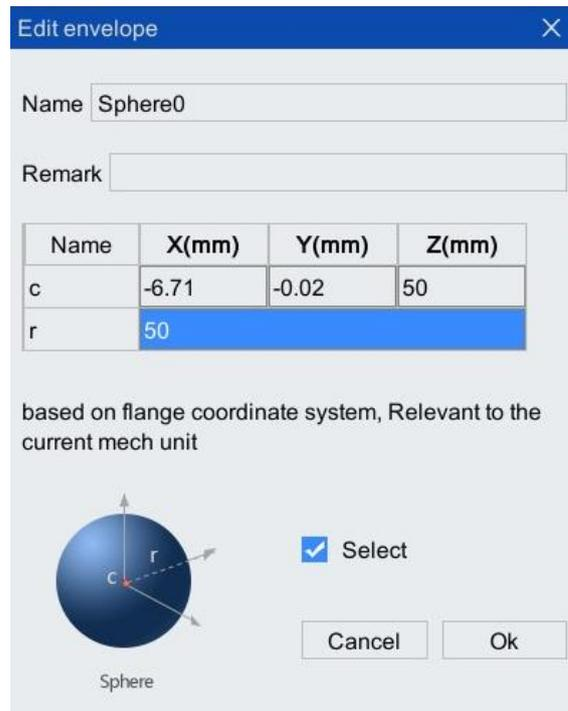

Figure 6-71 Editing interface of tool envelope ball "sphere0"
Step1.Setting of tool envelope. Set a tool envelope ball named "sphere0" to the tool. The radius of the tool envelope ball is 50mm. For details about center of envelope ball, please refer to Figure 6-71.